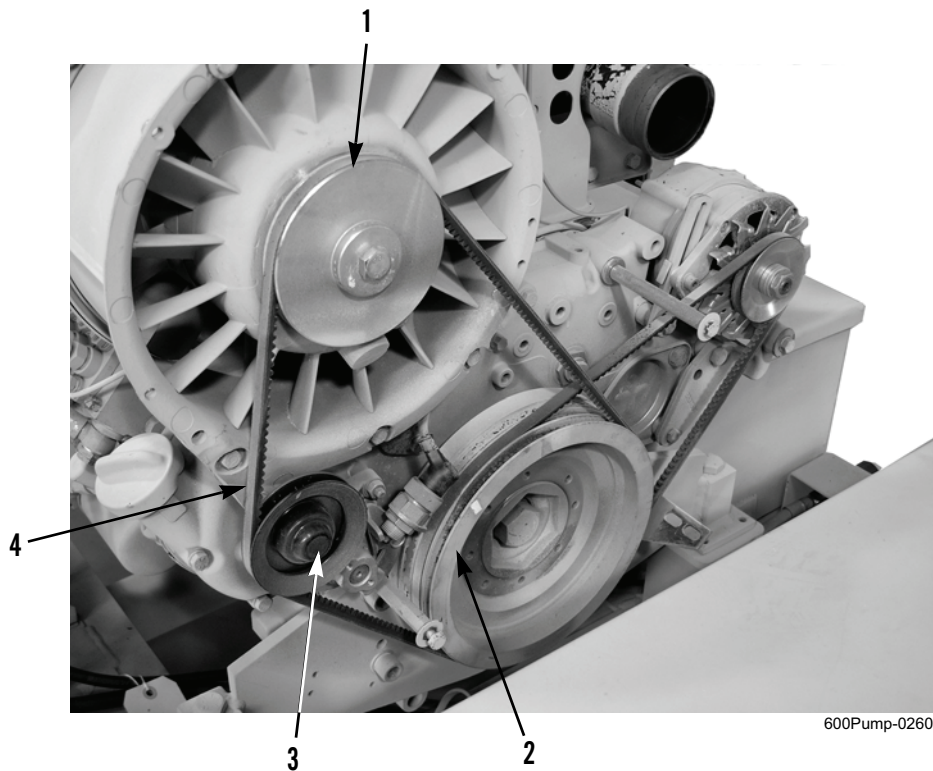

Figure 1. Cooling Fan V-Belt.
1. Push inward and upward on tensioner pulley assembly (Figure 1, Item 3) to release tension on cooling fan V-belt (Figure 1, Item 4).
2. Remove cooling fan V-belt (Figure 1, Item 4).
3. While pushing inward and upward on tensioner pulley assembly (Figure 1, Item 3), install new cooling fan V-belt (Figure 1, Item 4) between cooling fan pulley (Figure 1, Item 1) and crankshaft pulley (Figure 1, Item 2).
4. Release tensioner pulley assembly (Figure 1, Item 3), restoring tension to cooling fan V-belt (Figure 1, Item 4).